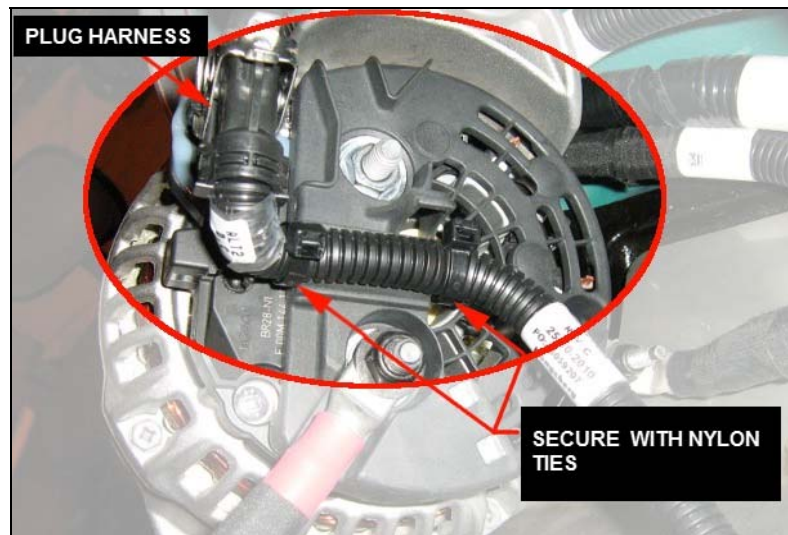

FIGURE 29
18. Plug lower alternator harness onto lower alternator connector and secure using two nylon cable ties #504637 (FIGURE 29).